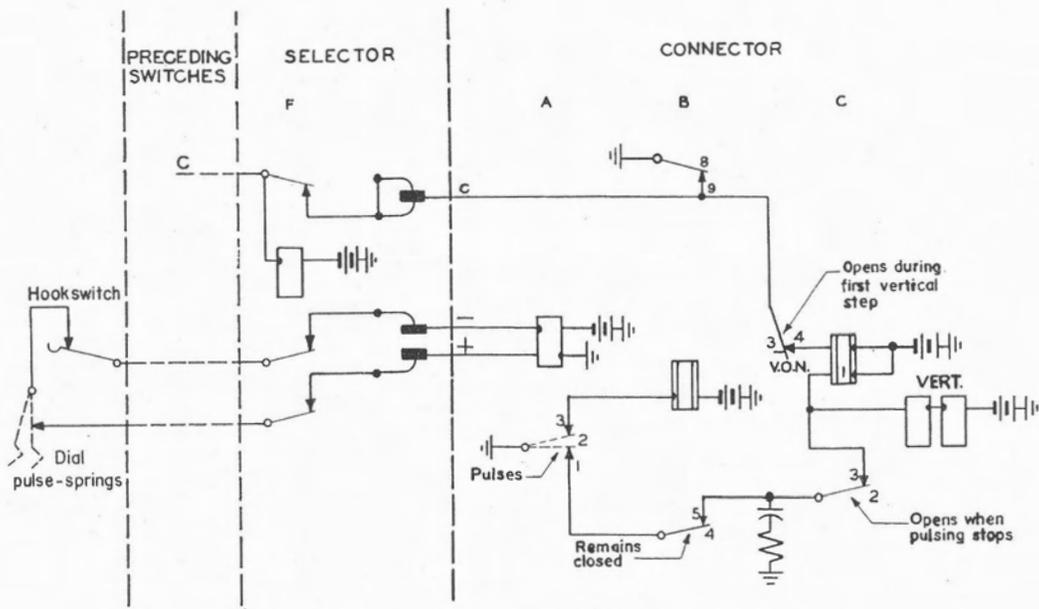

Figure 6. Vertical stepping.
11. VERTICAL STEPPING (figure 6)